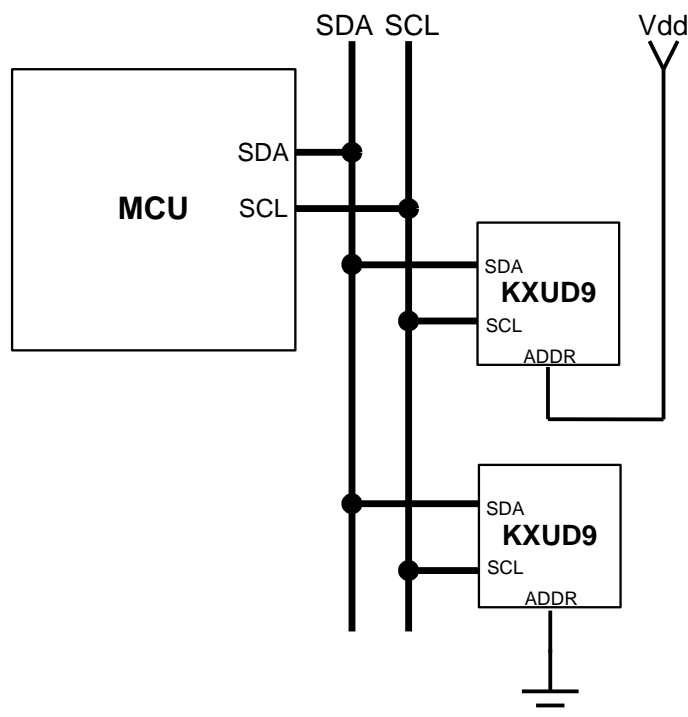

Figure 1 Multiple KXUD9 I²C Connection
The KXUD9 has the ability to communicate on an I²C bus. I²C is primarily used for synchronous serial communication between a Master device and one or more Slave devices. The Master, typically a micro controller, provides the serial clock signal and addresses Slave devices on the bus. The KXUD9 always operates as a Slave device during standard Master-Slave I²C operation as shown in Figure 1 on the following page.
Transactions on the I²C bus begin after the Master transmits a start condition (S), which is defined as a high-to-low transition on the data line while the SCL line is held high. The bus is considered busy after this condition. The next byte of data transmitted after the start condition contains the Slave Address (SAD) in the seven MSBs (Most Significant Bits), and the LSB (Least Significant Bit) tells whether the Master will be receiving data '1' from the Slave or transmitting data '0' to the Slave. When a Slave Address is sent, each device on the bus compares the seven MSBs with its internally-stored address. If they match, the device considers itself addressed by the Master. The KXUD9's Slave Address is comprised of a programmable part and a fixed part, which allows for connection of multiple KXUD9's to the same I²C bus. The Slave Address associated with the KXUD9 is 001100X, where the programmable bit, X, is determined by the assignment of ADDR (pin 8) to GND or Vdd. Figure 1 above shows how two KXUD9's would be implemented on an I²C bus.